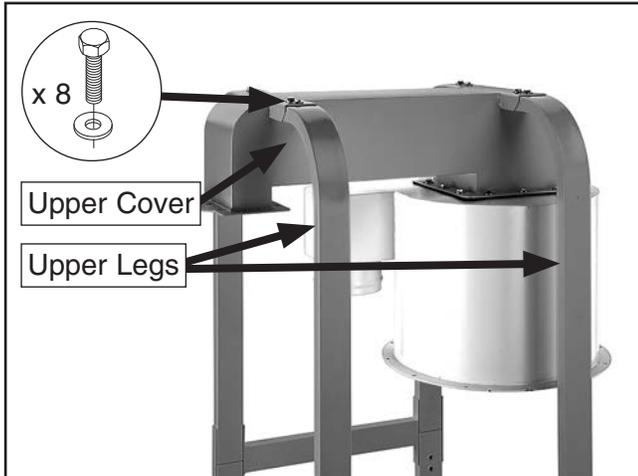

Figure 17. Upper cover attached to upper legs.
- With help from an assistant, lift upper cover and intake barrel and attach to upper legs with (8) $\frac{5}{16}$ "-18 x $\frac{3}{4}$ " hex bolts and (8) $\frac{5}{16}$ " fender washers (see **Figure 17**).